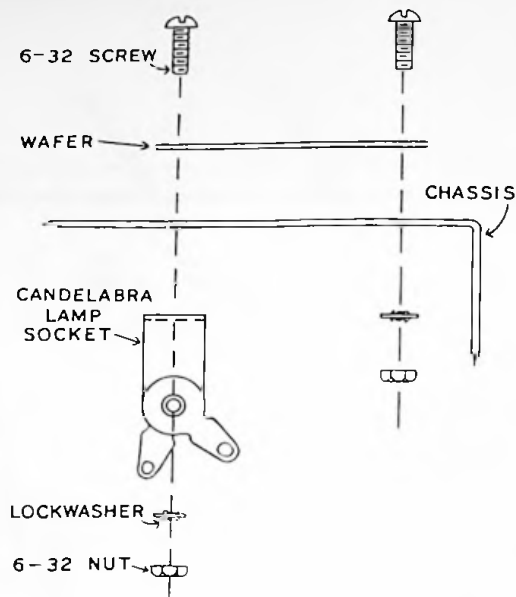

Figure 3
- () Mount the condenser mounting wafer on top of the chassis. At the same time, install the candelabra lamp socket as shown in Figure 3.